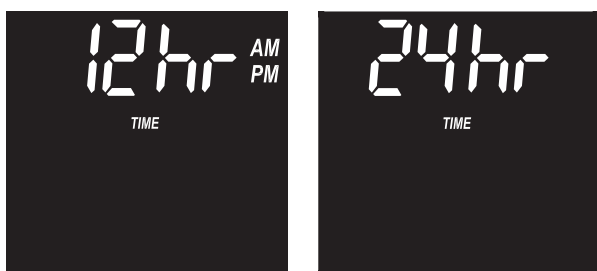

FIG. 33
3. Once in this display, press the SET button again and one of the two displays in Figure 33 is shown.